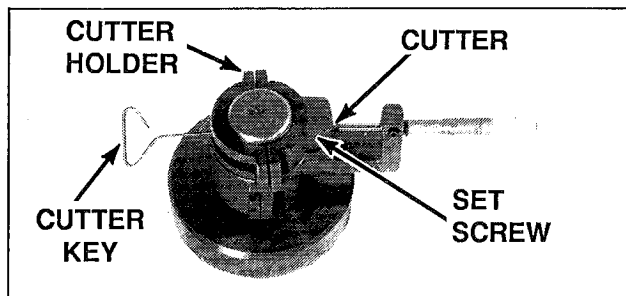

FIG. 5 CUTTER HOLDER ON MICROMETER ASSY.
1. On the micrometer assembly, install the appropriate cutter holder (see Application Chart) over the micrometer shaft and align the cutter hole in the cutter holder with the hole through the micrometer shaft. The scribed lines on the micrometer shaft and the cutter holder will easily identify the positions of the holes. Tighten the cutter holder on the micrometer shaft, using knurl handle hex wrench. Do Not use tee handle wrench. Keep even gaps between the two halves of the cutter holder when tightening on the micrometer shaft. (See Fig. 5).